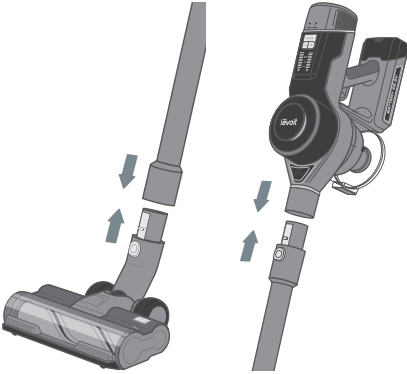

Figure 1.1
1. Attach the vacuum head or nozzle attachment to the bottom of the stick and attach the vacuum body to the top of the stick [Figure 1.1].